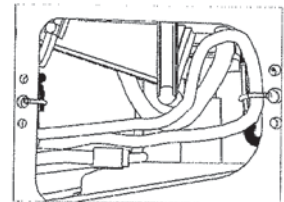

Figure 1
1. Determine a location for the TFI box. Suggested locations are as follows: Touring- Behind the RH frame sidecover or under the seat. Softail and Dyna- under seat. Check the illustrations below for recommended locations. **NOTE: ON SOFTAIL MODELS- DO NOT LOCATE THE TFI CONTROL UNIT IN-BETWEEN THE BATTERY AND THE OIL TANK. HEAT FROM THE OIL TANK WILL DAMAGE THE CONTROL UNIT.** Once the TFI location has been established, layout and cut the wires to length. (See figures 1,2,&3)